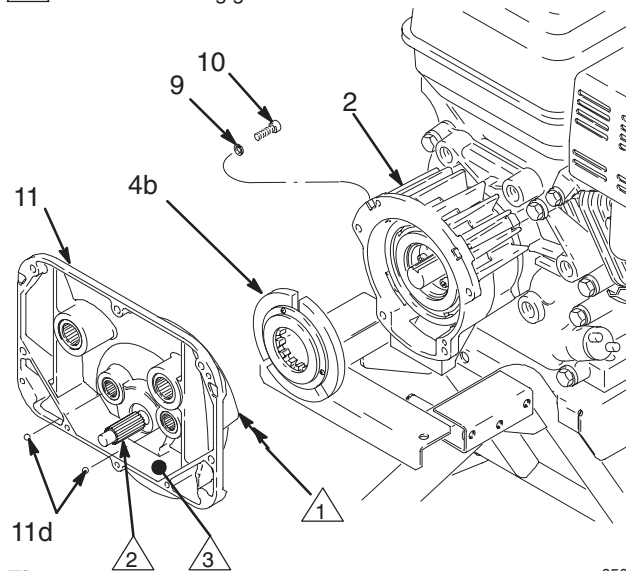

Fig. 9
**NOTE:** Refer to Fig. 9 for Steps 1 to 5.
3. Remove the two bottom screws (10) and lock-washers (9) first, then remove the two side screws (10) and lockwashers (9), and last remove the top screw (10) and lockwasher (9).
4. Pull the pinion housing (11) away from the clutch housing (2). The armature (4b) will come with it.